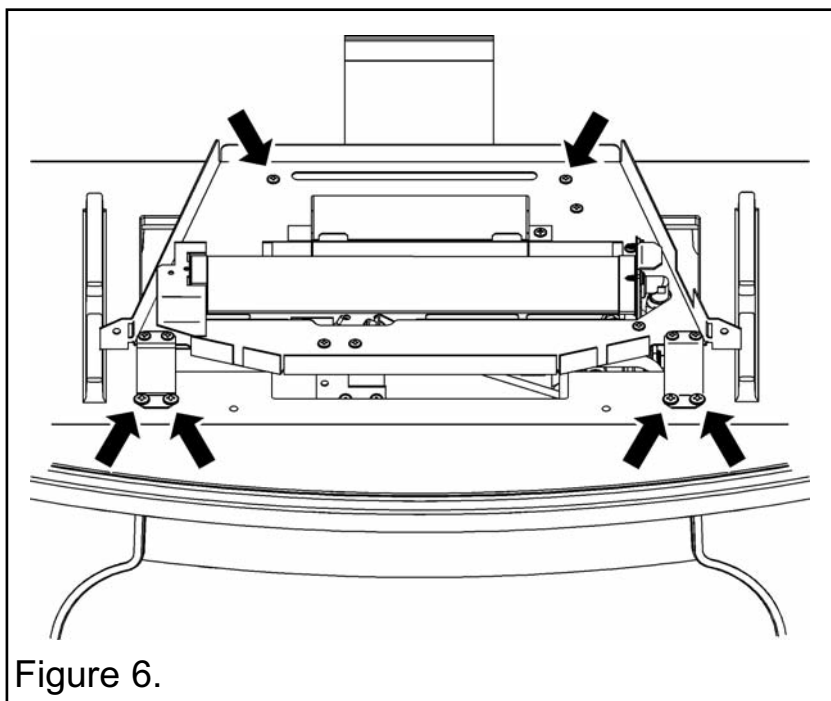

Figure 6.
- Locate the burner assembly inside the stove body as in figure 6 (The outer body of the stove is not shown for clarity). Secure using the six No.4 x 10mm screws supplied.